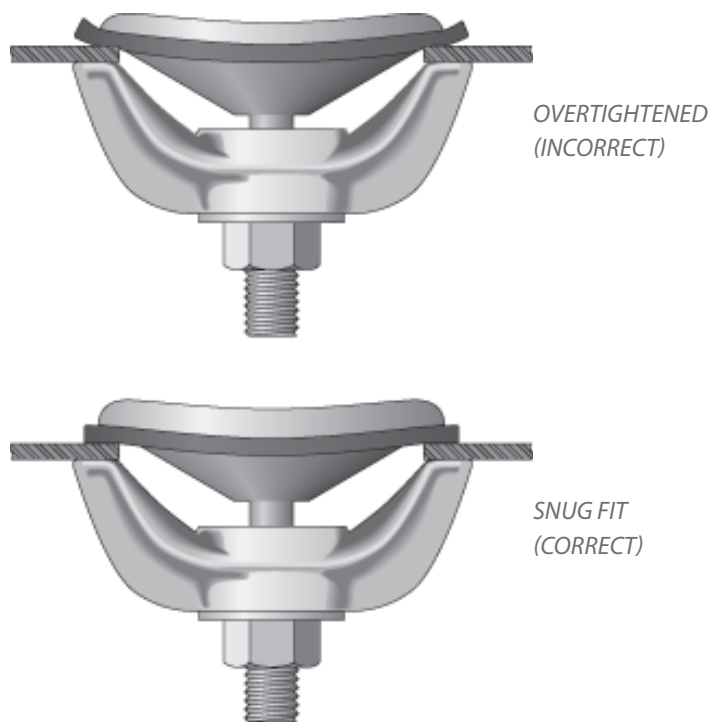

FIGURE 4 - GASKET INSTALLATION
3. After plate is in boiler and gasket is in place, set yoke and tighten nut only enough to provide a snug fit. See Figure 4. Make it hand tight then snug with wrench about ¼ turn. Do not compress excessively as neoprene gaskets should never be compressed as much as the old asbestos type.